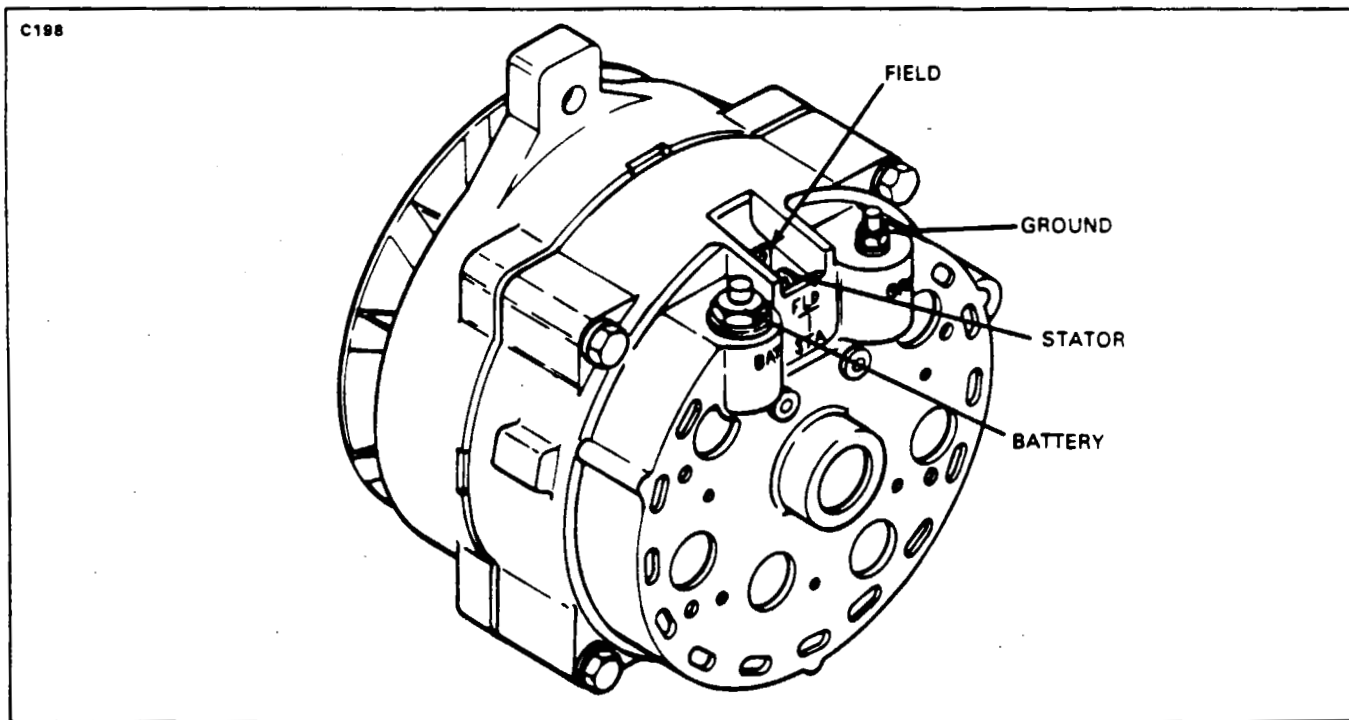

Figure 24-17. Rear View and Terminal Identification
2. The rear housing is also a die-cast aluminum part which supports the rotor shaft rear bearing and provides mounting bosses for the rectifier assembly. The housing contains the various electrical connections and openings for cooling airflow. (Refer to Figure 24-17 for Terminal identification.)